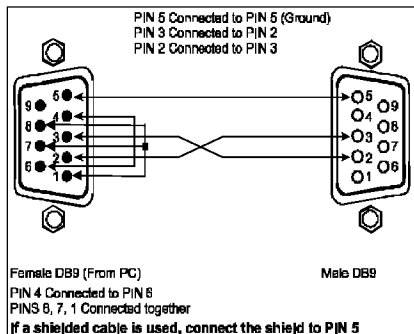

Figure 4: Connecting a PC without using a Null-modem Adapter
- Connect the RS-232 DB9 port on your PC to the RS-232 DB9 rear panel port on the **VS-41HD** unit, as Figure 4 illustrates